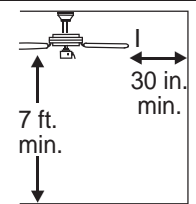

Fig. 3
3. Check to make sure blades (I) are at least 30 in. from any obstruction. Check downrod (A) length to ensure blades (I) are at least 7 ft. above the floor. [Fig. 3]